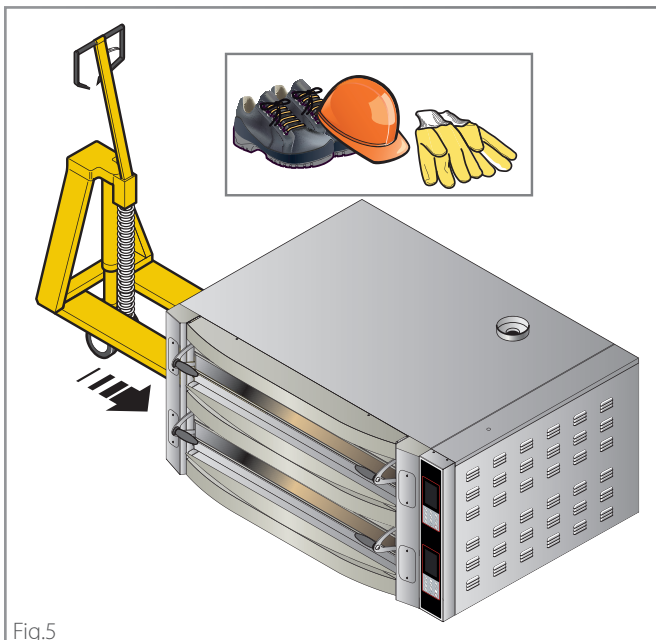

Fig.5
► **Fig.5** Fitted with personal protection equipment, transport the appliance to the installation location.